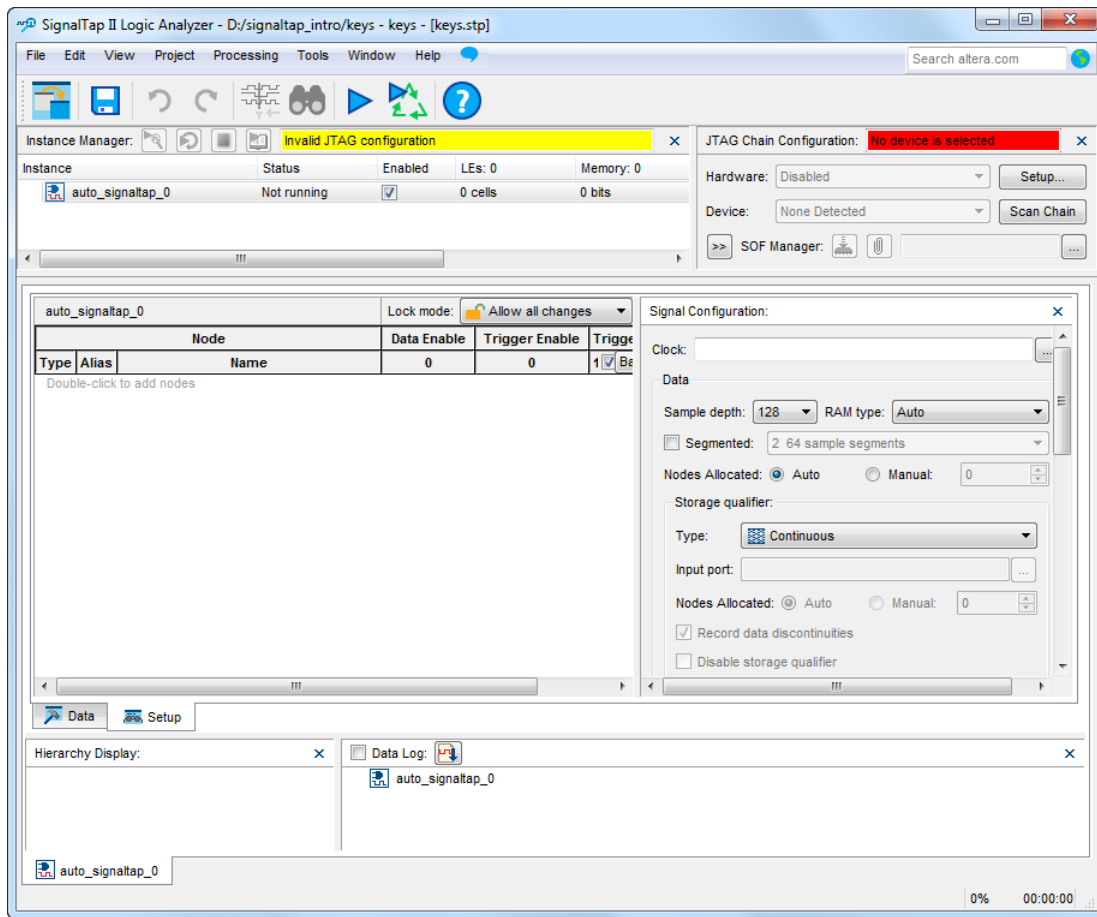
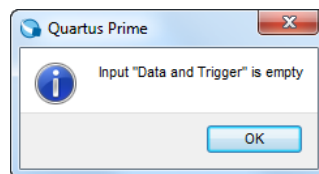
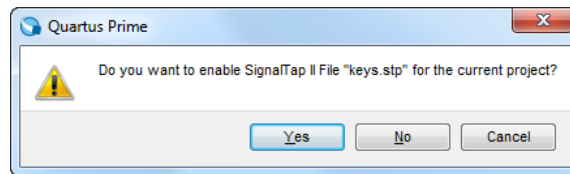

Figure 4. The SignalTap II window.
Figure 5. Click OK to this dialog.
Figure 6. Click Yes to this dialog.
2. The SignalTap II window with the **Setup** tab selected is depicted in Figure 4. Save the file under the name *keys.stp*. In the dialog box that follows (Figure 5), click **OK**. For the dialog "Do you want to enable SignalTap II file 'keys.stp' for the current project?" click **Yes** (Figure 6). The file *keys.stp* is now the SignalTap file associated with the project.